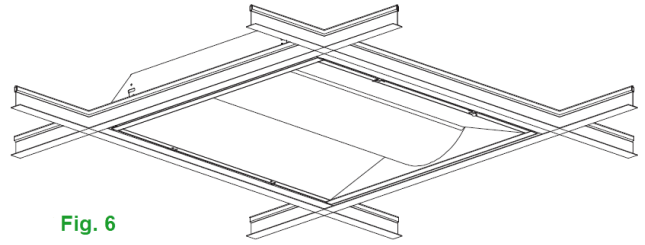

Fig. 6
- Installed completely. (Fig. 6)